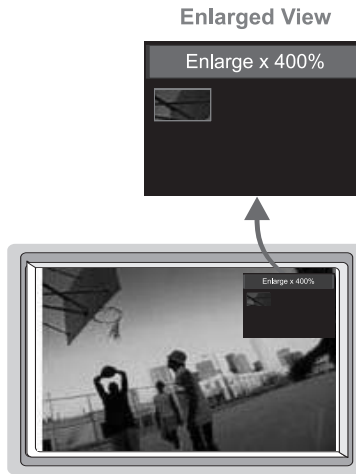

Figure 20: OSD Enlarge Status
The zoom ratio and the zoom position are illustrated by a small rectangle inside a transparent pop-up OSD Enlarge status box that appears at the top right corner of the screen, as the example in Figure 20 illustrates:
- Using the Zoom + and/or the Zoom - control keys¹ on the infra-red remote control transmitter (see Figure 49). The pop-up OSD Enlarge status box continuously displays the zoom ratio and position, as Figure 20 illustrates